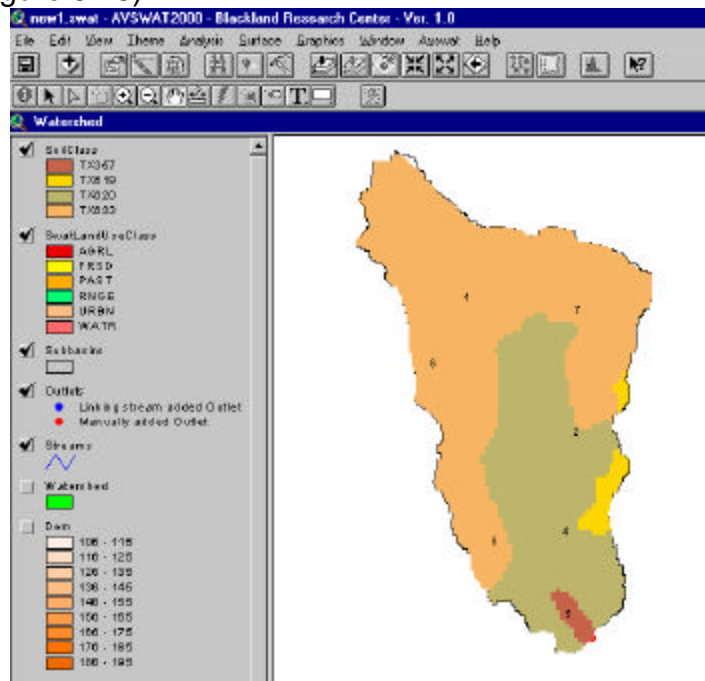

Figure 6.48
8. A new theme named "SoilClass" will be displayed in the *Watershed View* (Figure 6.48).